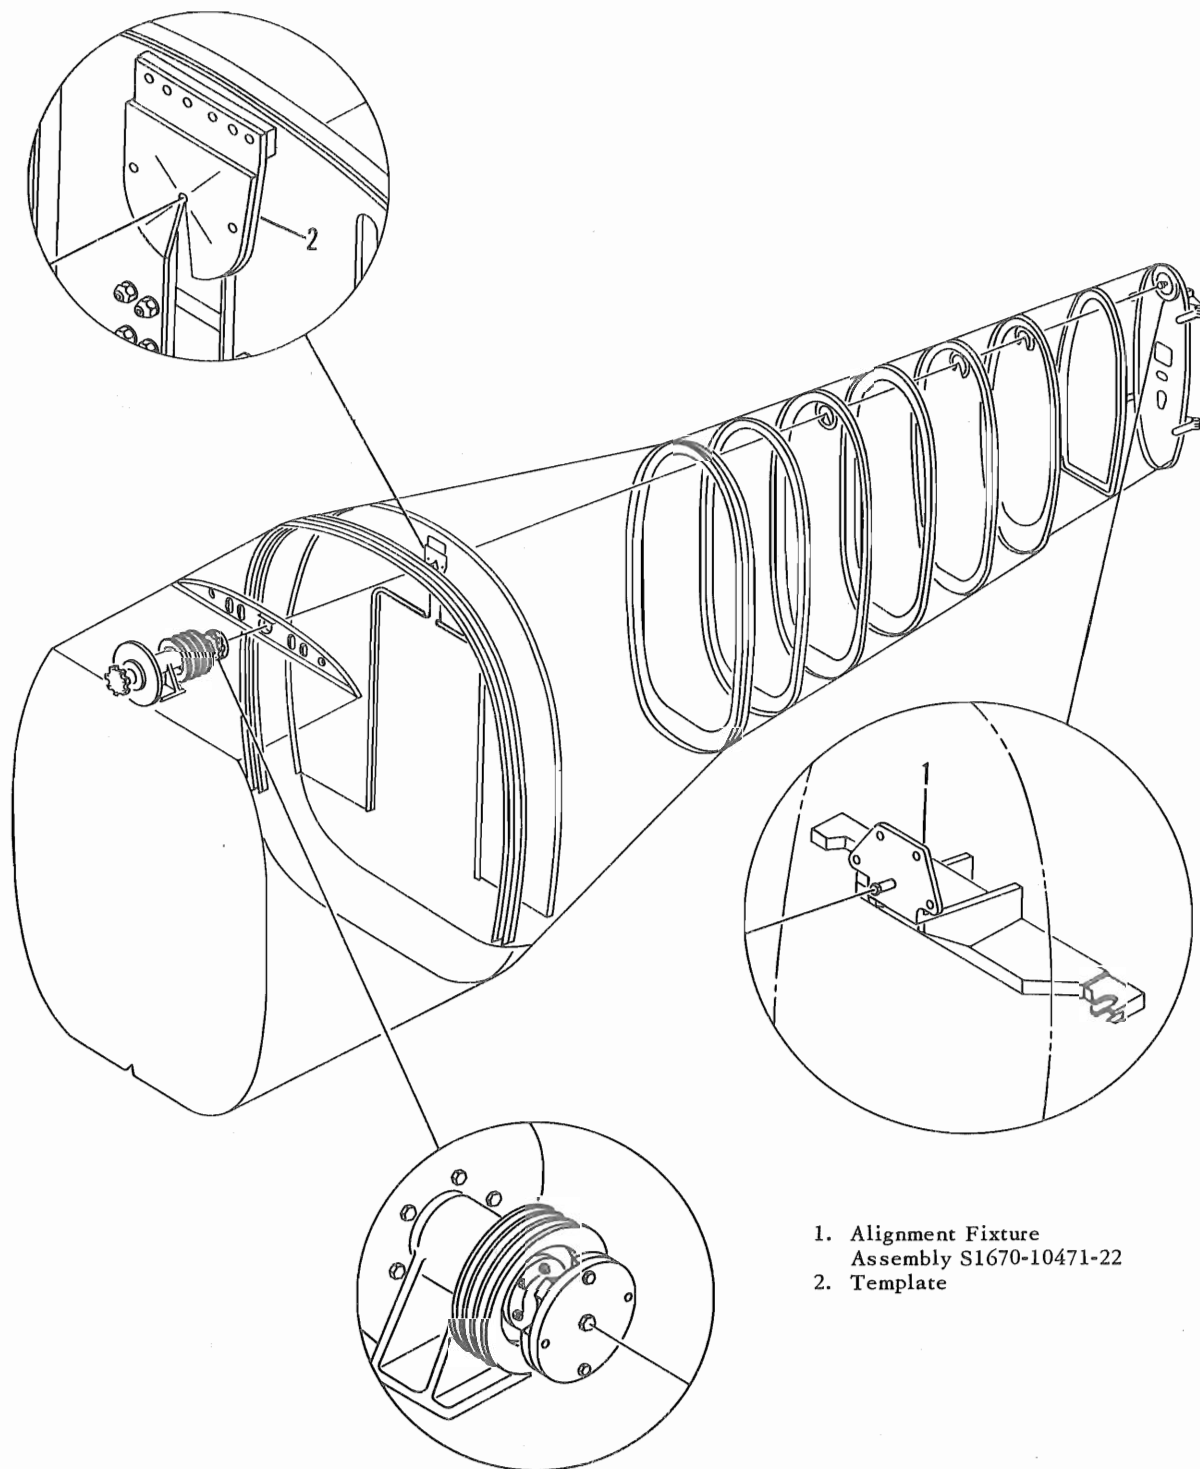

Figure 4-18. Checking Drive Shaft Alignment
r. Remove locator from input coupling alignment fixture and install in its place locator assembly from alignment fixture assembly, part No. S1670-10471-22. (See figure 4-18.)
t. If support brackets are attached to helicopter, use template to check brackets for proper alignment. Position dowel pins on template with upper two holes on each support bracket. Flat of template should be on topside, and wire or line must fall within, but not contact, radius at bottom of each V. (See figure 4-18.)